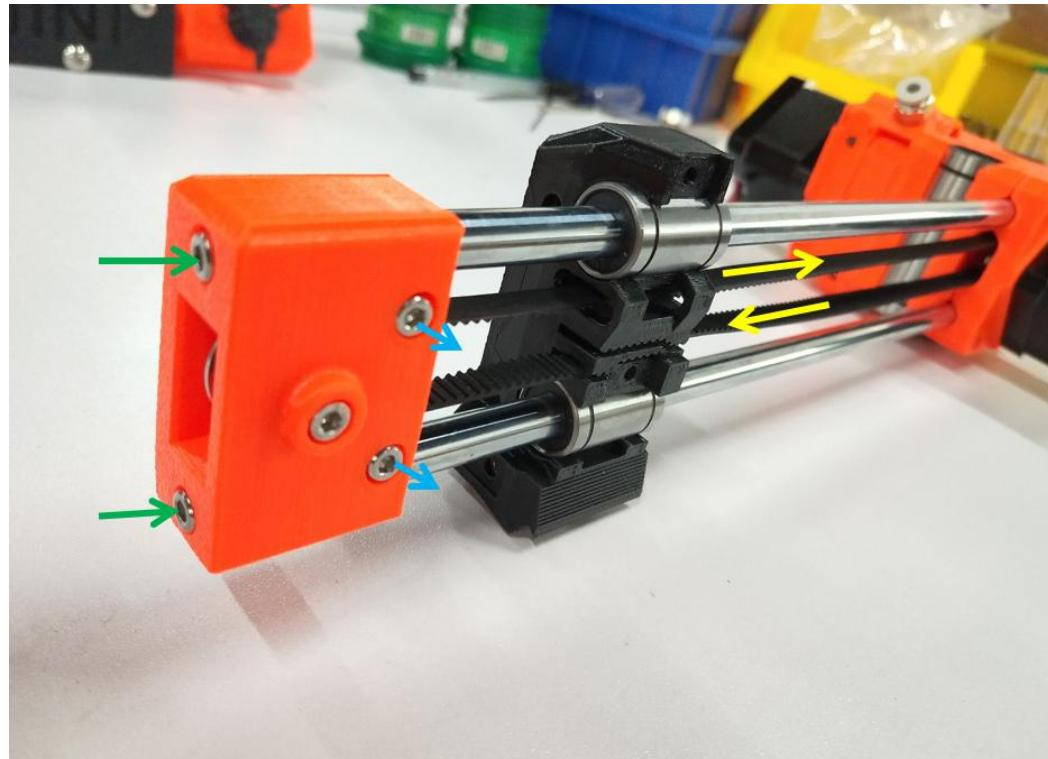

Figure 2.11.15
**Step 2-11-10:** as shown in Figure 2.11.15